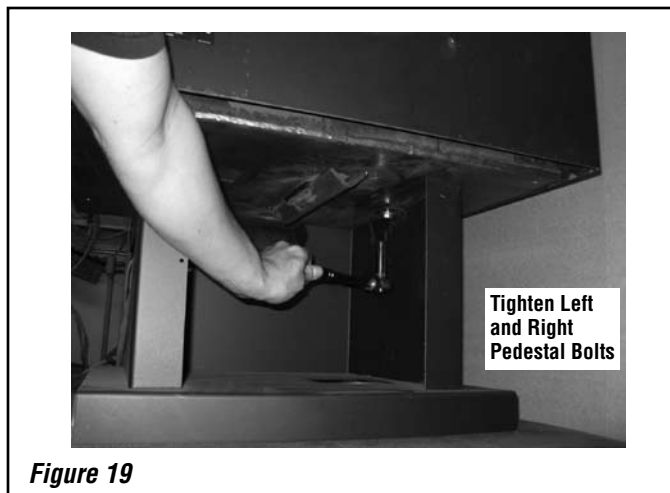

Figure 19
Step 5. With the snap switch bracket in place, using a 9/16" wrench or socket wrench you can now tighten down both left and right side pedestal bolts. See **Figure 19**.